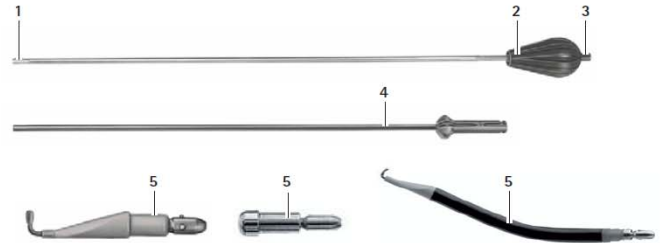

Fig. 1
- Hold shaft 4 and turn handle 2 counterclockwise, see Fig. 1.